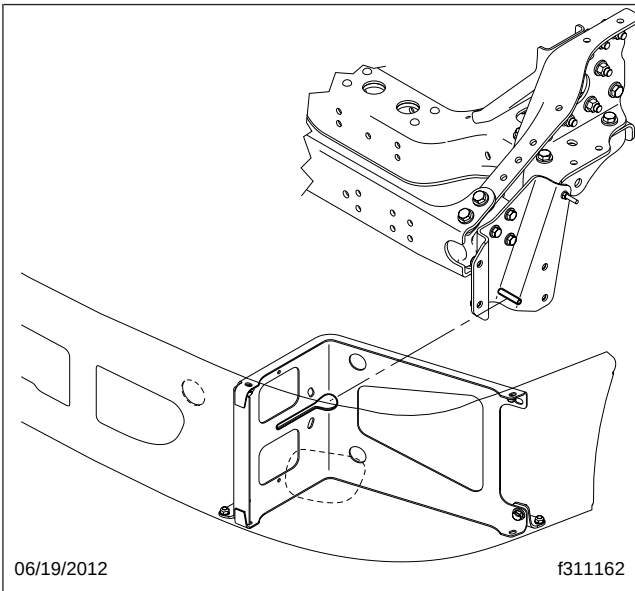

Fig. 2, Aligning the Bumper Bracket Slot and Rod
1. Install the bumper, making sure to align the guide stud on the mounting bracket in the center groove on the bumper bracket. See Fig. 2.